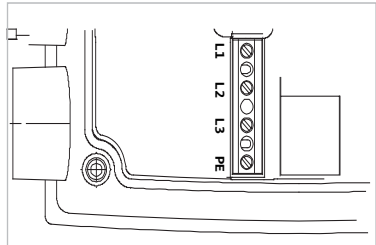

Fig. 20: Mains connection terminals
- Mains connection terminals (Fig. 20)